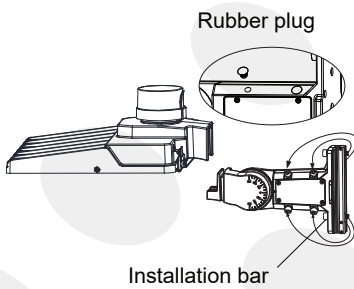

Figure 1
Step 1: Remove the four bolts from PSP bracket, Take out the four rubber plugs from the accessories bag, put the four rubber plugs on the place where the four bolts were previously placed on the bracket for waterproof purpose. (Figure 1)